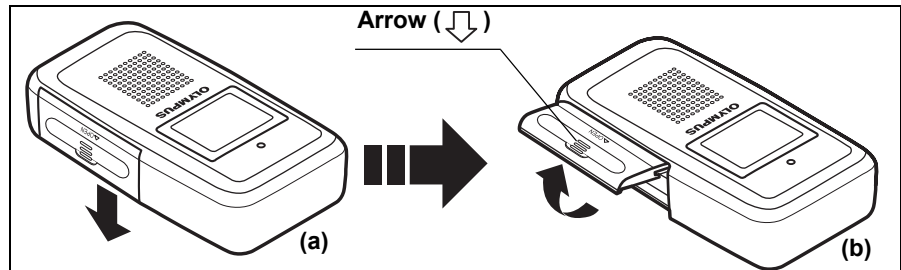

Figure 5.23
1. Open the battery pack slot cover by sliding it in the direction of the arrow (see Figure 5.23 (b)).